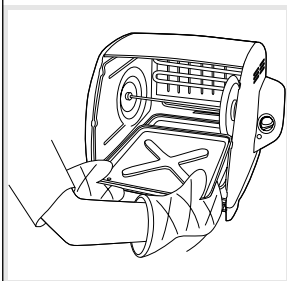

FIGURE 9
16. Once the unit has cooled down and while using protective gloves or oven mitts, remove drip tray from unit. (***Be very careful: contents of drip tray are extremely hot.***) (Figure 9)